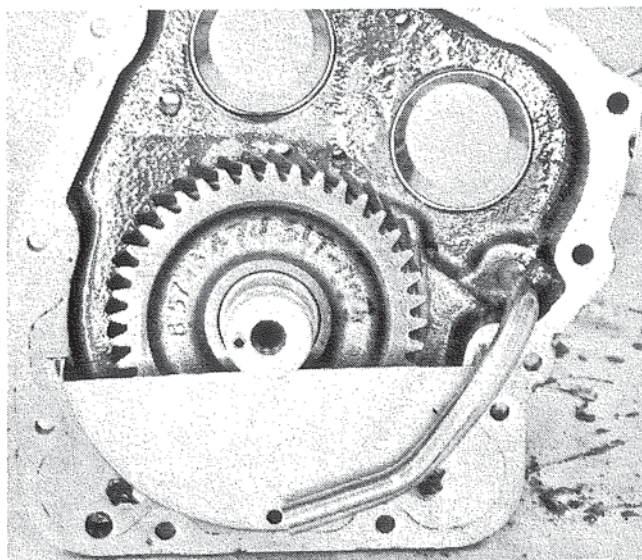

Figure 36. Installing Gear Pan.
2. Secure the gear pan to the cover with two (2) hex head cap screws (5/16-18 x 1/2). Tighten the screws to 15-17 ft. lbs. torque. Figure 36.